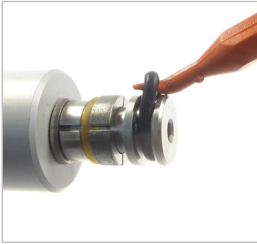

Figure 8
- ▶ Insert a suitable repair tool behind the front seal (Pos. 7) with the WEH® O-ring picker, part No. E98-101969, and unroll it out of the recess over the large diameter of the shaft (Pos. 11) (*Figure 8*).